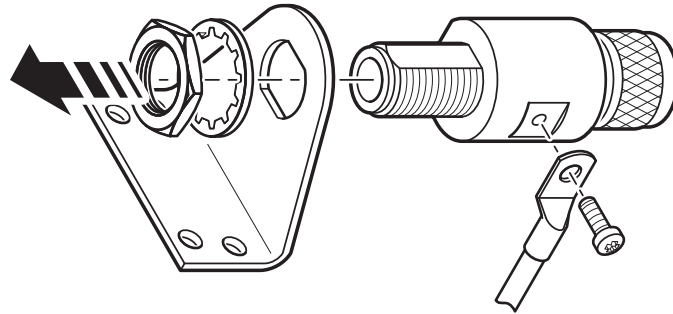

Figure 7.1: Assembly of the MBG S-PRO Surge Protector
2. Fit the MBG-S-PRO surge protector to the mounting bracket as shown in Fig. 7.1. The MBG S-PRO has no dedicated input or output polarity and therefore has no preferred installation orientation.